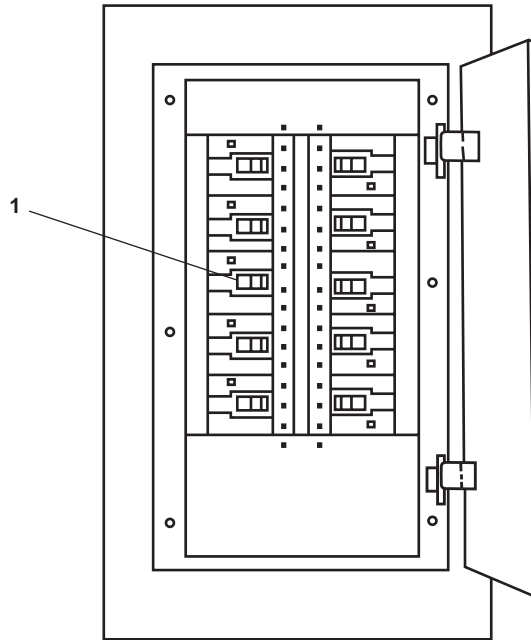
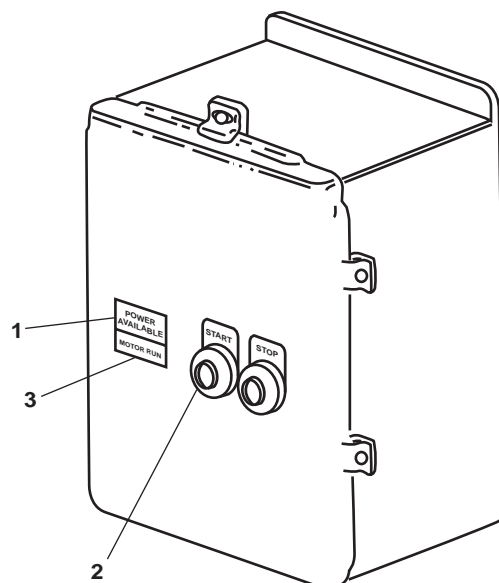

Figure 10. AMS 1 Power Panel No. 4
Figure 11. Hot Water Recirculating Pump Motor Controller
- (1) At the 440V power panel No. 4, set the HOT POTABLE WATER RECIRCULATING PUMP circuit breaker (figure 10, item 1) to ON.
- (2) Complete the following at the hot potable water recirculating pump motor, located in AMS 1:
- (a) Verify that the POWER AVAILABLE indicator (figure 11, item 1) illuminates.
- (b) Press and release the START pushbutton (figure 11, item 2).
- (c) Verify that the MOTOR RUN indicator (figure 11, item 3) illuminates.